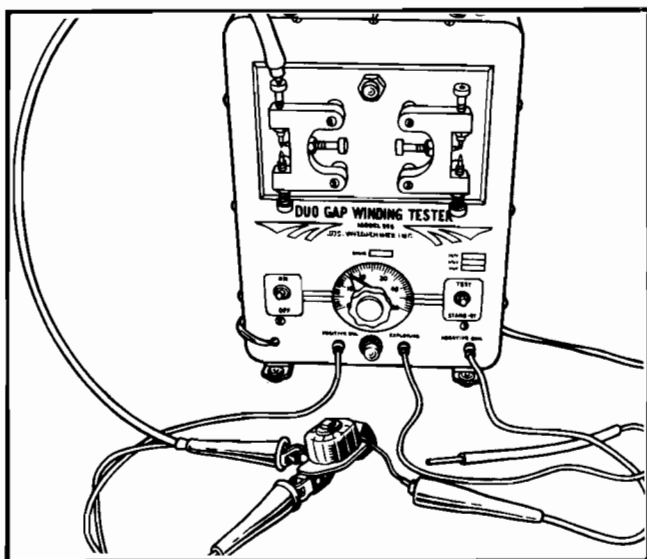

Figure No. 18—Testing Magneto Coil
12. Check the coil on a coil tester (See Figure No. 18) in accordance with specifications given by the manufacturer. (See Test Data Chart—Page 23.)